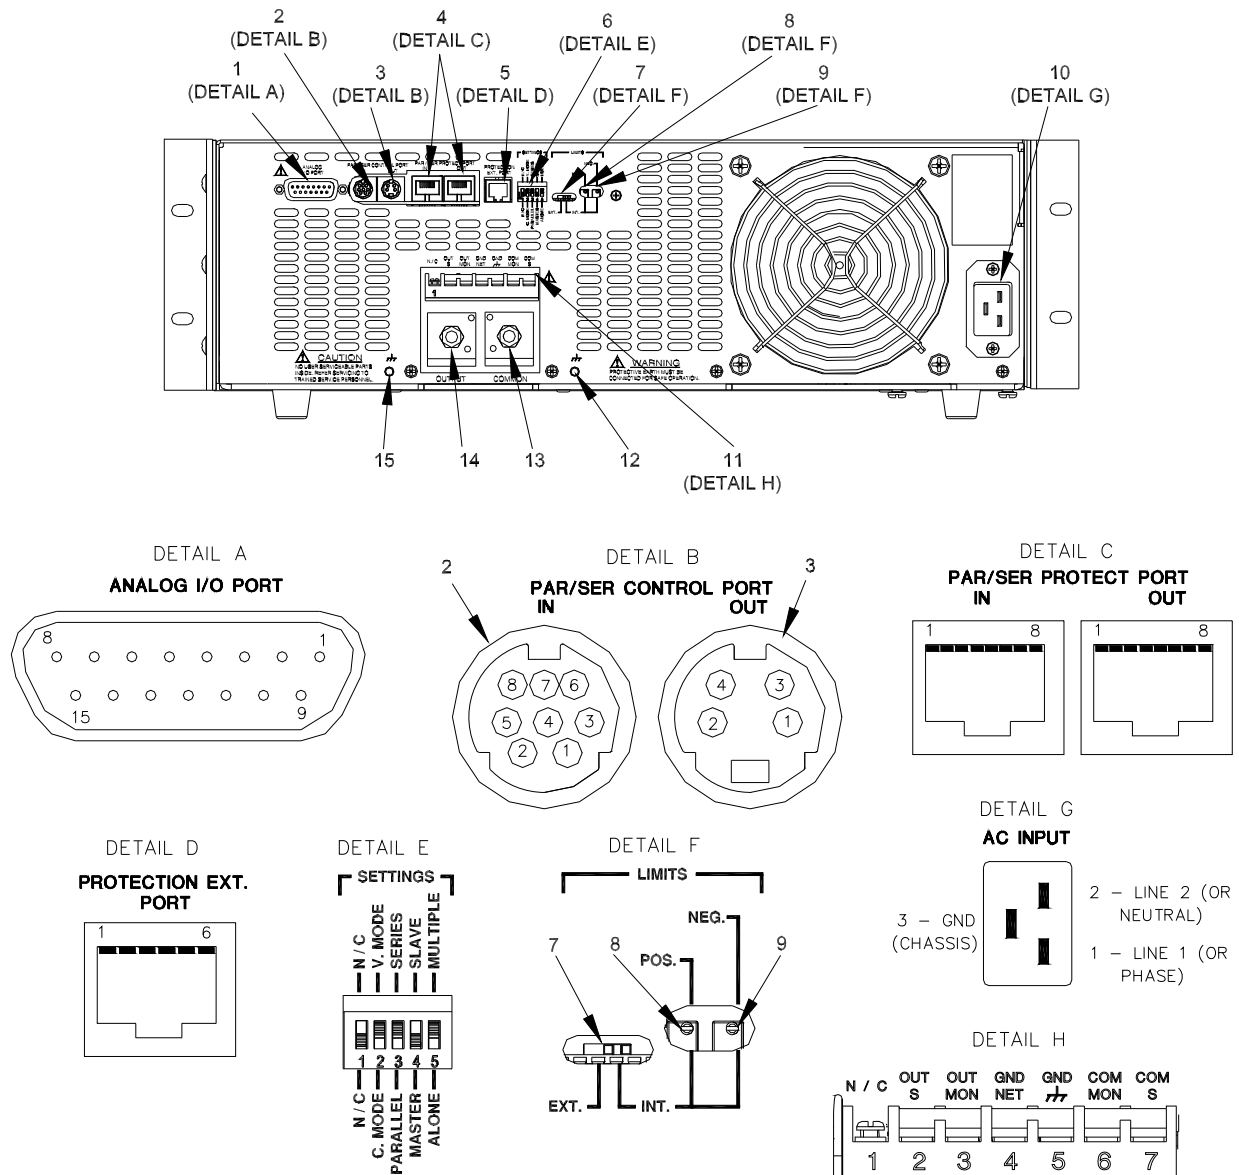

FIGURE 2-1. REAR PANEL
b) Rear Panel: Refer to Figure 2-1 and Table 2-1.
NOTE: The mandatory connection to earth ground should be made using the frame terminals (12, Figure 2-1), NOT terminal 5 of the terminal block (11, Figure 2-1).
Refer to Figures 2-1 and 3-1 for location of operating controls and electrical connections. Tables 2-1 through 2-8 and 3-1 explain the functions of operating controls/indicators. Refer to PAR. 3.2 for a description of basic operating techniques.